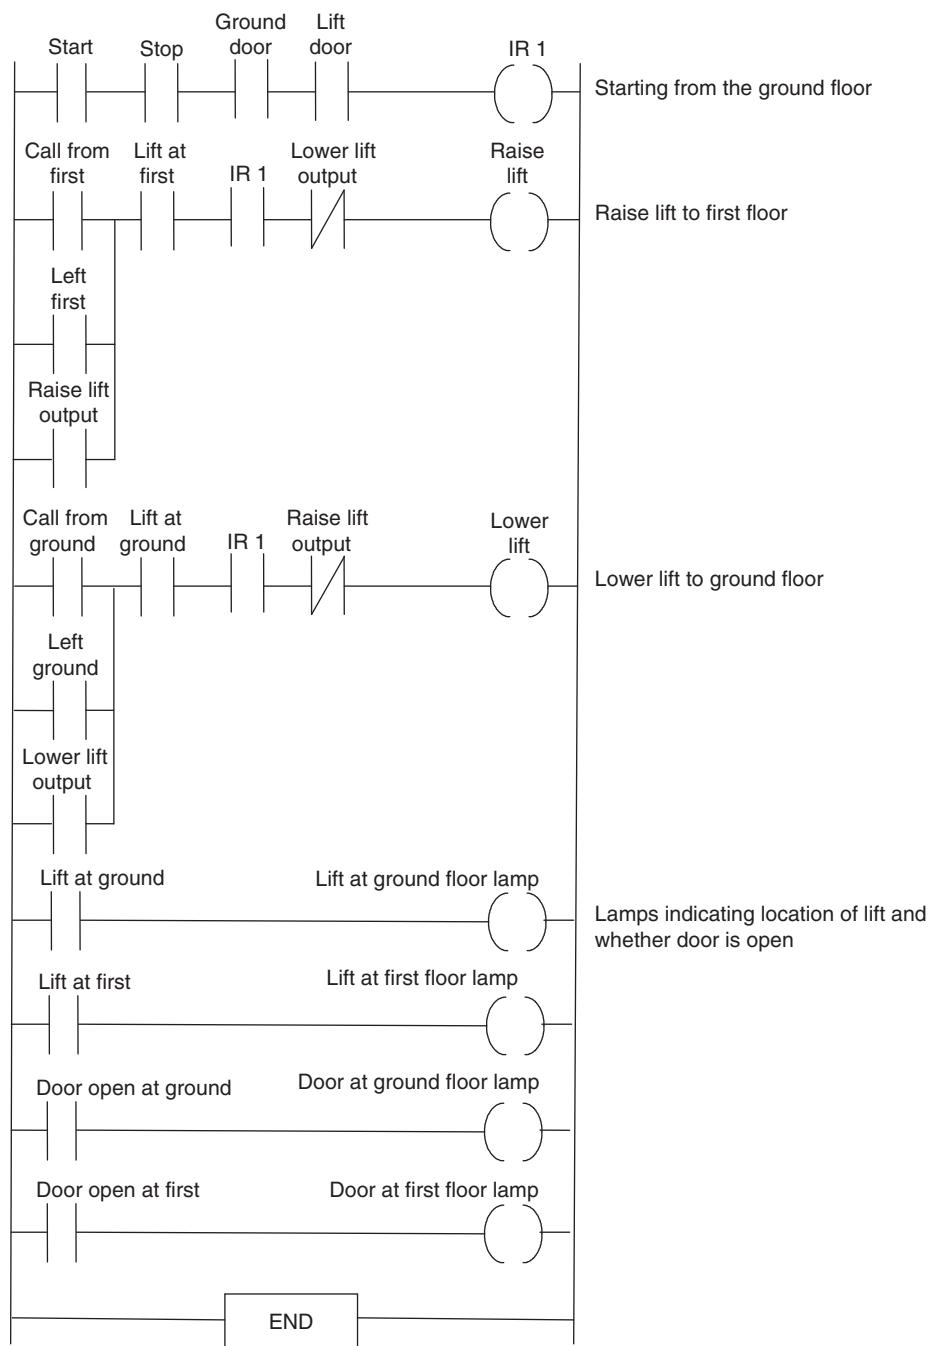

Figure A.13: Chapter 14, Problem 10.
10. A basic specification might be as follows: The lift can only move when both access doors are closed and the lift door is closed. The lift will move from the ground floor to the first floor when a call command is given from the first floor and move to the ground floor when a call command is received from the ground floor. Signal lamps at each floor will indicate on each floor which floor the lift is at. See Figure A.13 for a possible program. You might like to refine the program by adding a timer which will sound an alarm if the lift takes too long between floors.